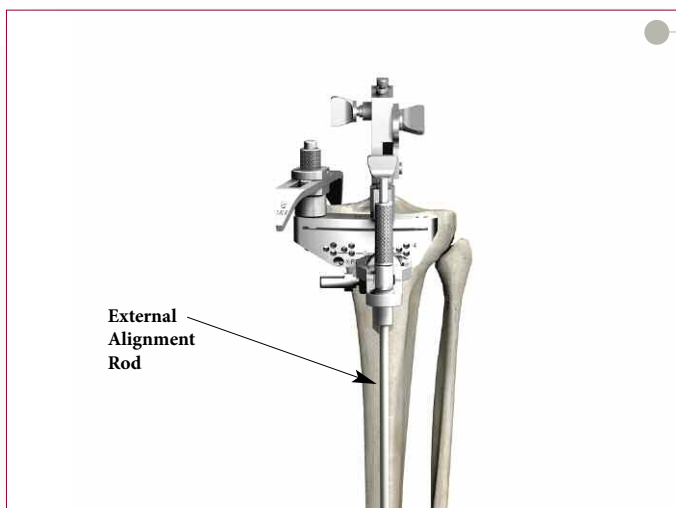

Figure 62
- ▶ Attach the alignment handle to the resection guide, and slide a long alignment rod into the alignment handle. When correct varus/valgus alignment is attained, the pin should be centered over the ankle (**Figure 62**).